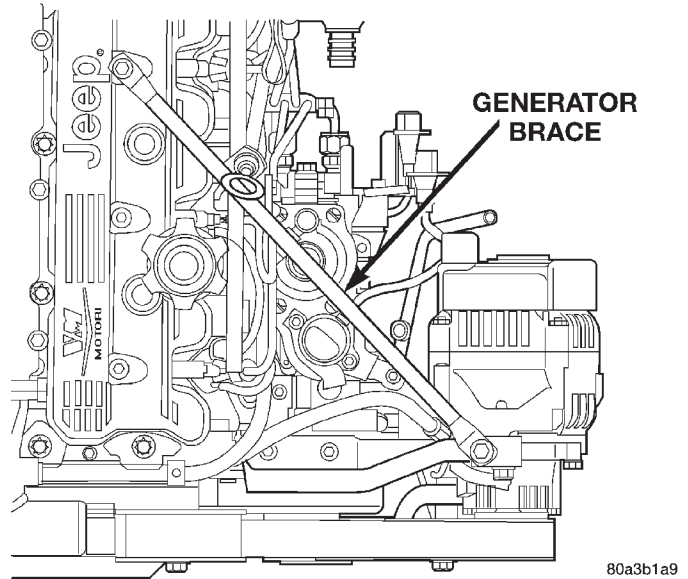

Fig. 12 Generator Brace
- (2) Drain the cooling system (refer to Group 7, Cooling).
- (3) Discharge the air conditioning system, if equipped (refer to Group 24, Heating and Air Conditioning for service procedures).
- (4) If equipped with air conditioning, remove the A/C lines at the compressor and cap (refer to Group 24, Heating and Air Conditioning). Remove A/C line bracket attached to cylinder head cover, and move A/C lines away from cylinder head.
- (5) Remove generator support brace (Fig. 12).
- (6) Remove Crankcase breather hose from rear of the valve cover
- (7) Remove the upper radiator hose and coolant tank hose.
- (8) Remove water manifold.